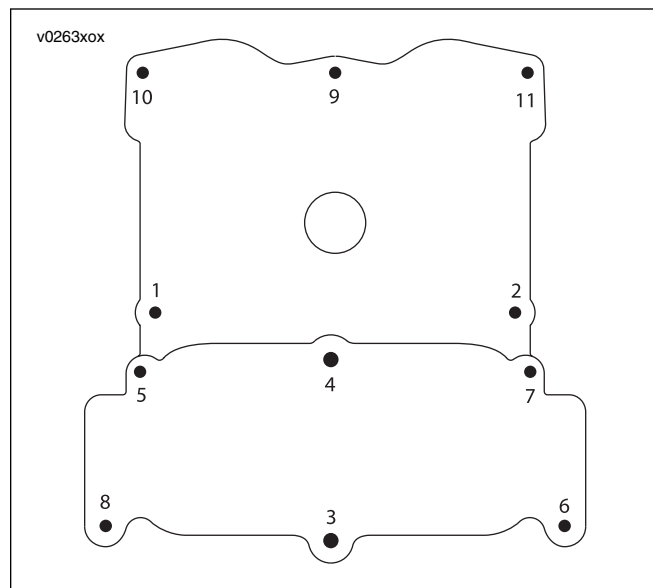

Figure 3-18. Cam Cover Torque Sequence
3. See Figure 3-18. Remove cam cover fasteners in reverse order of torque sequence and remove cam covers.